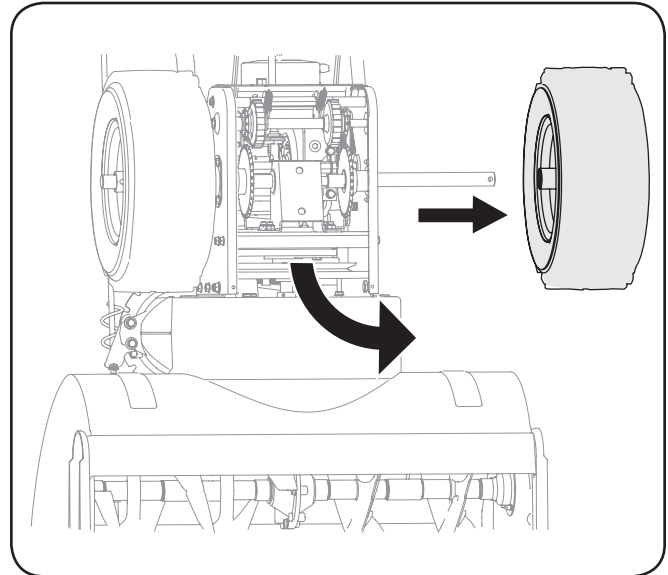

Figure 8-9
3. Remove screws from the frame cover underneath the snow thrower (refer to Fig. 8-9). Remove the right wheel from the axle.